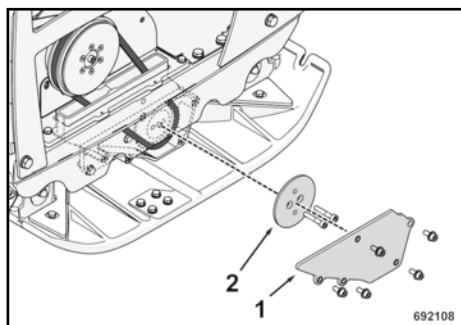

Fig. 44
Remove the safety cover (1) ↗ Fig. 44.